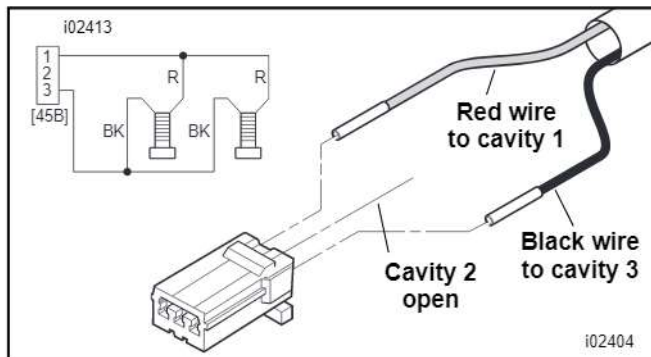

Figure 2. Wiring the Socket Housing
13. Obtain the socket housing (11), and the black wire (7) and red wire (8) assemblies from the kit.
14. Insert the terminals on the ends of the red and black wires into the socket housing (11) from the kit as shown in Figure 2. Refer to AMP MULTILOCK ELECTRICAL CONNECTORS in the Service Manual.